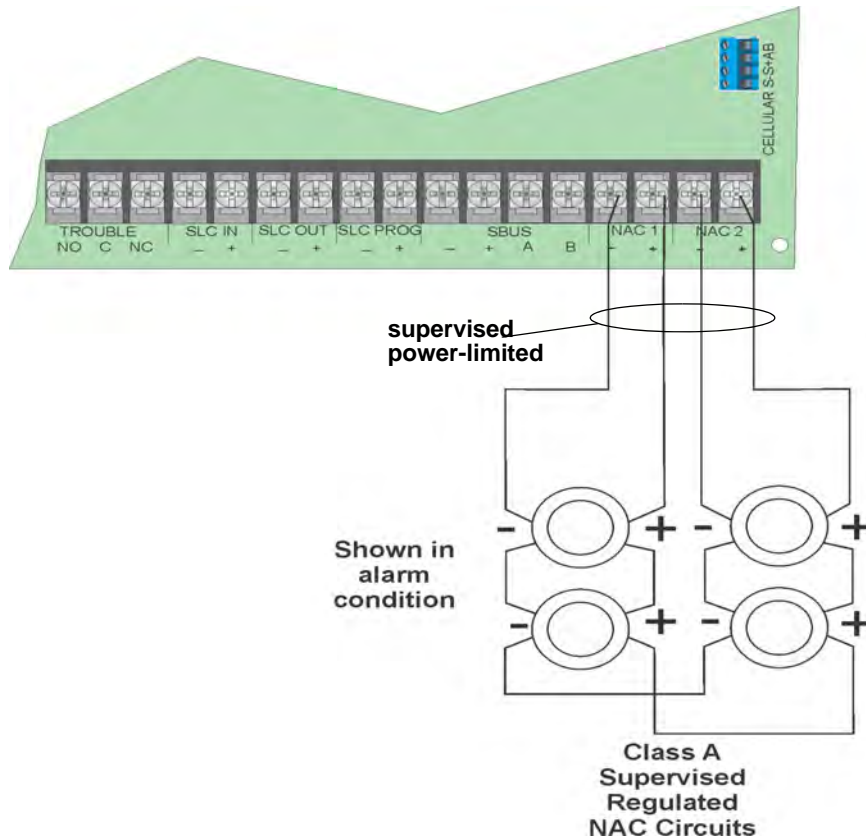

Figure 4.35 Class A Notification Appliance Circuit Configuration
1. Wire the Class A notification appliances as shown in Figure 4.35.